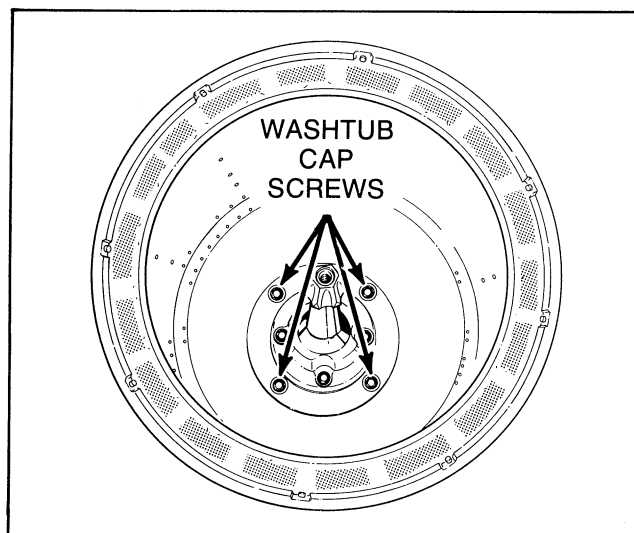

Figure 27
- e. Remove four cap screws and washers holding washtub to hub, *Figure 27*.
- f. Remove the four cap screws holding washtub to hub, *Figure 27*, then lift washtub out of outer tub.
- f. Remove four cap screws and washers holding washtub to hub, *Figure 27*.